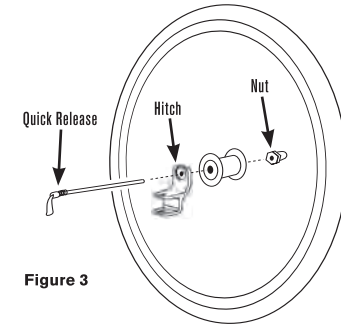

Figure 3
3. Reassemble quick release assembly through hitch and dropout loosely. **Figure 3**